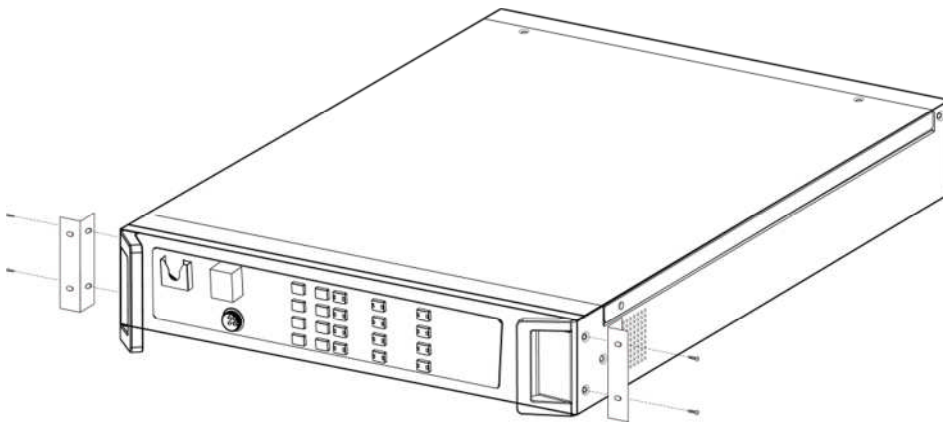

Figure 8 Schematic Diagram of the DCS Bracket Installation
2. Install brackets on the left and right sides of the DCS, as shown in Figure 8.
4. Install brackets on the left and right sides of the DA, as shown in Figure 8.